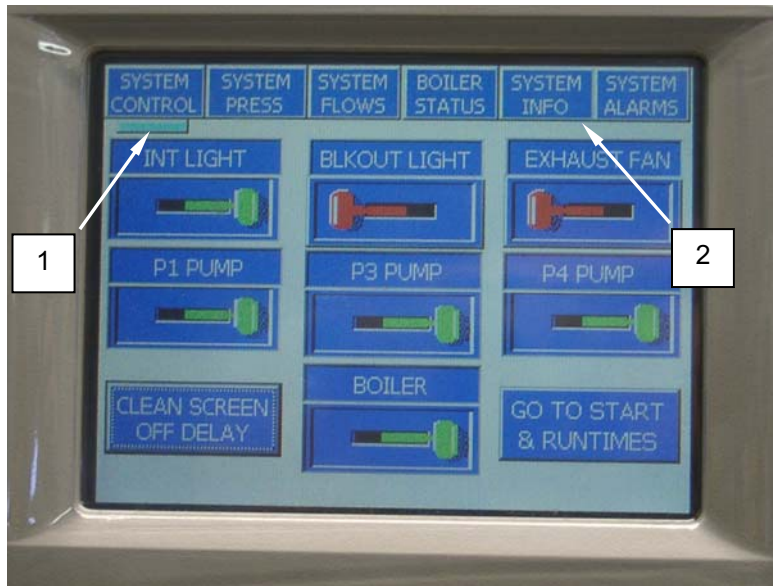

Figure 20. Selecting the System Info Display.
1. When the PLC is powered up, the System Control display (**Figure 20, Item 1**) is presented. If a SYSTEM INFO function is desired, touch the SYSTEM INFO tab (**Figure 20, Item 2**) to access the screen. An indicator bar or highlight will indicate that the SYSTEM INFO screen is presented.